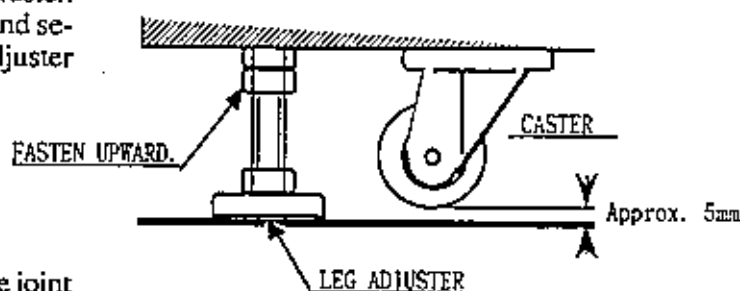

FIG. 6.6 LEG ADJUSTER
- ① Move the machine to the installation position. When installing the machine against or close to a wall, be sure to secure a passage space to enable the player to take a ride in the machine.
- ② Attach the joint plate for the 2 internal leg adjusters shown. First, cause the other 6 leg adjusters to come into contact with the floor. Make leg adjuster adjustments with a wrench in a manner to ensure the machine's position is level (Fig. 6.6).
- ③ After making adjustments, fasten the leg adjuster nut upward and secure the height of the leg adjuster (Fig. 6.6).
- ④ Insert the notch portions of the joint plate to the 2 leg adjusters.